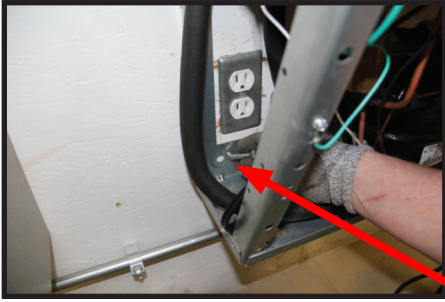

FIG. 2
- 5) Secure cooler frame to wall by installing (2) screws and washers (not supplied). (See Fig. 2, Pg. 4). Make sure the screws engage in a structural member.